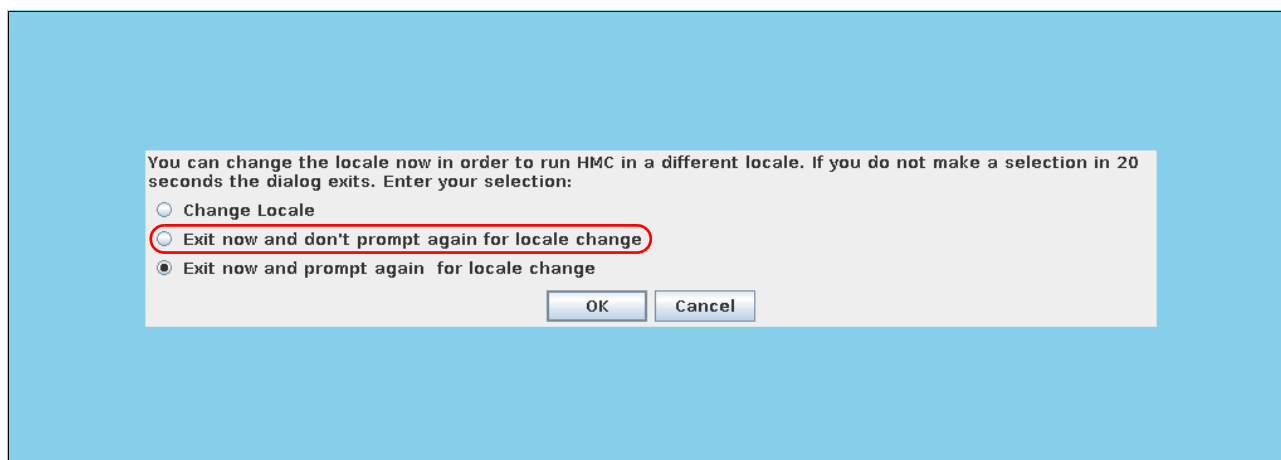

Figure 3-76 Change the HMC locale
- The HMC now reboots, removing upgrade data, if any, and displays the locale selection dialog box. The default action is to display at every reboot and time out after 20 seconds. To change this action, select the appropriate entry from the three options (Figure 3-76). If you do not want to show this panel on subsequent boots, select the second option (**Exit now and don't prompt again for locale change**). Click **OK**.